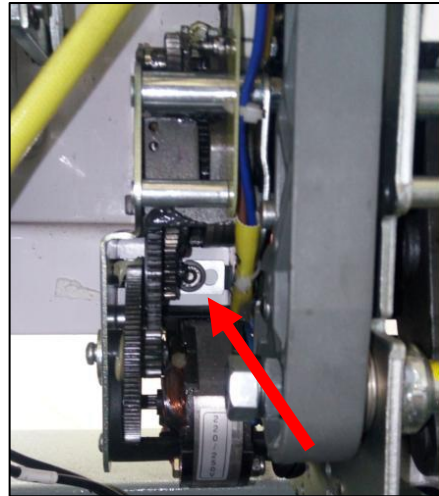

Figure 13 - Spring-charging motor screw
3. Spring-charging motor to be inspected for any abnormal noise. Absence of lubrication can cause noise. Re-tight spring charging motor as shown in picture Figure 13.